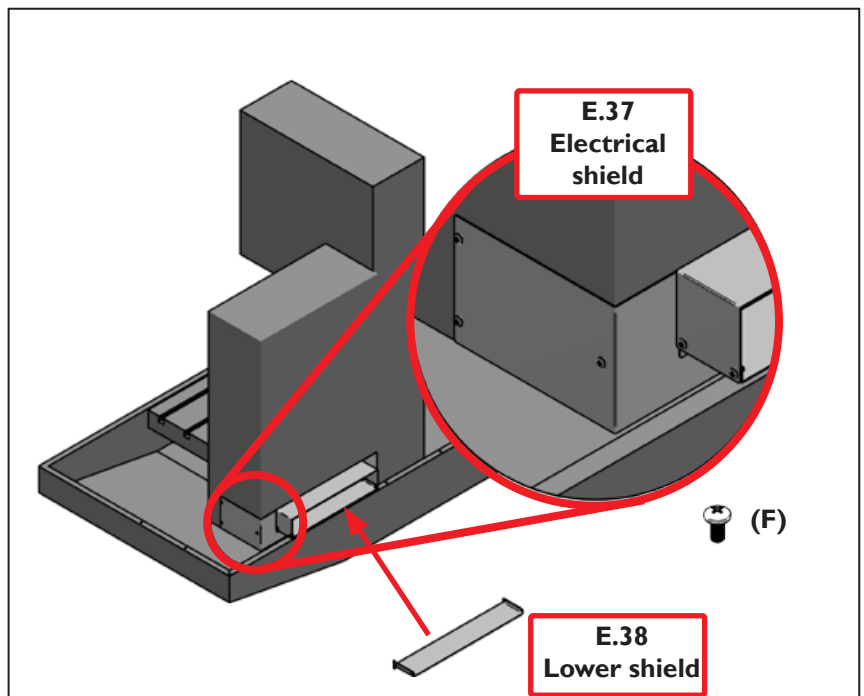

Figure 2
3. Place the Electrical Shield (E.37) around the right corner of the mill (see **Figure 2**).
4. Using six F screws, attach the Lower Shield (E.38) to the bottom of the Electrical Shield (E.37) as shown in **Figure 2**.
5. Next, mark, drill, and tap; use #21 Drill and 10-32 tap to make three holes on the side of the electrical cabinet where the existing holes are located in the Electrical Shield (E.37) as seen in **Figure 2**.
6. Once holes are drilled and tapped, secure Electrical Shield into place using three (F) screws as seen in **Figure 2**.